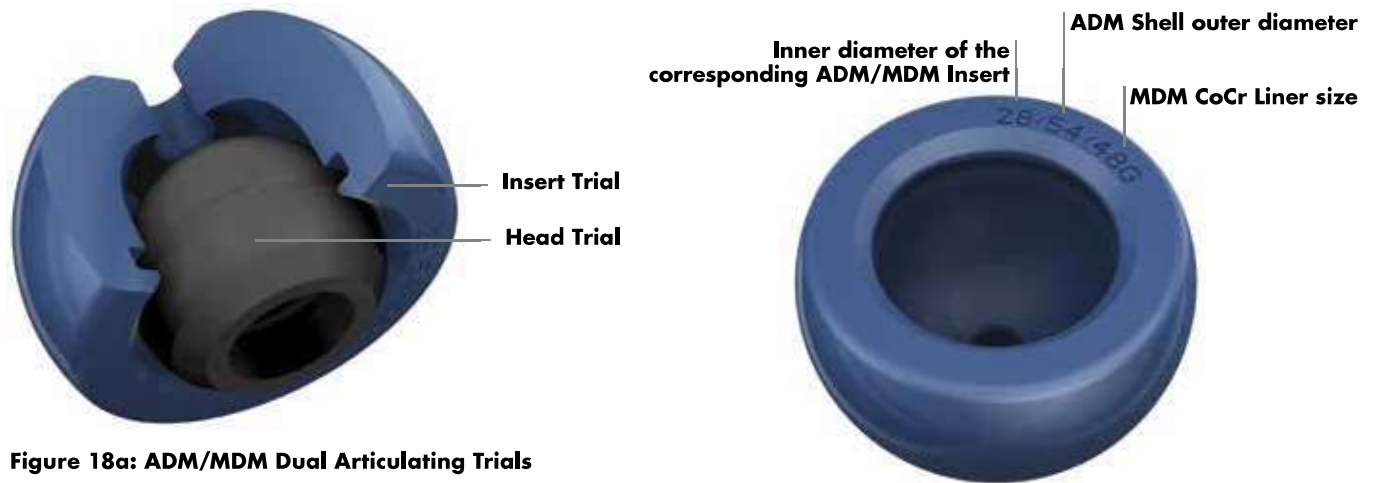

Figure 18a: ADM/MDM Dual Articulating Trials
- If using the ADM/MDM Dual Articulating Trials, place the 22.2mm or 28mm Head Trial into the appropriate Insert Trial to mimic the final articulation function of the MDM System (**Figure 18a**). The size of the insert trial will correspond with the MDM Liner being implanted (**Table 6**).